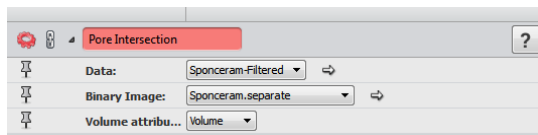

Figure 17.25: Parameters of the Pore Intersection Module
8. Compute the intersection percentage of the pores for the filtered network. Create a *Pore Intersection* module on the last result and connect the result of the *Separate Objects* module to the Binary Image port. The module will output a new pore network code, including an intersection column that represents the percentage of intersection with the real pore space (see Figures 17.25 and 17.26).